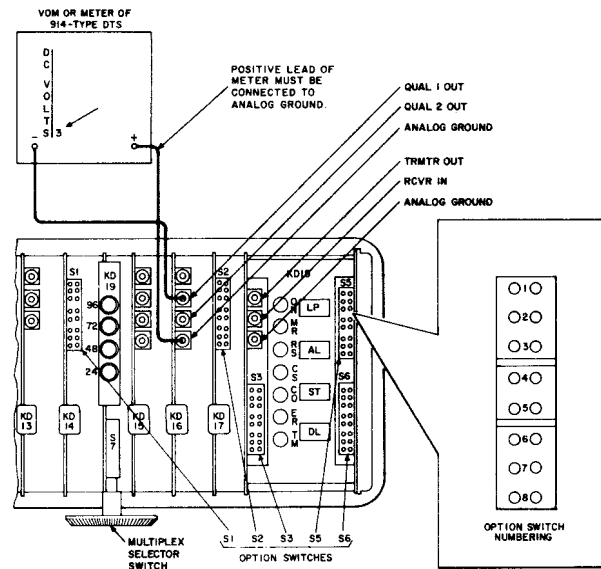

Fig. 5—Compromise Equalizer Test Setup
- (1) Call the STC and verify that options WK(S1-4), WN(S1-2), WP(S3-1), WS(S1-7), XG(S5-6), or XI(S5-8) are installed in the distant-end data set. (Disregard additional options not listed.)
- (2) Refer to Fig. 5 and install options WN(S1-2), WK(S1-4), WS(S1-7), XG(S5-6), or XI(S5-8) in the local data set. (Disregard additional options not listed.)
- (3) Verify that the distant-end data set is in the digital loop-back mode and that the ST switch is depressed.
- (4) Position the multiplex selector switch of the local data set to 2400 bps. (This conditions the **quality 2 out** test point on KD16 of the local data set to indicate the quality of the received signal at the distant-end data set.)
- (5) Apply power to the local data set.
- (6) Depress the ST switch of the local data set. Ignore momentary blinking of the status indicators. The ER indicator is lighted while the ST switch on the distant-end data set is depressed.
- (7) Measure and record the dc voltage at **quality 1 out** test point as shown in Fig. 5.
**Requirement:** 1.25 volts or less. If this requirement is met, proceed to (18).
- (8) Remove option shorting jack S1-4 and reinstall at S1-5.
- (9) Measure the dc voltage at **quality 1 out** test point as shown in Fig. 5.
(10) Install the option shorting jack (either S1-4 or S1-5) which results in the minimum negative voltage magnitude indication (VOM indicates less than 2 volts dc).
(11) Install option WM (S1-1) in the local data set.
(12) Measure and record the dc voltage at **quality 1 out** test point as shown in Fig. 5.
(13) Remove option shorting jack S1-1 and reinstall at S1-3.
(14) Measure and record the dc voltage at **quality 1 out** test point as shown in Fig. 5.
(15) Remove option shorting jack S1-3 and reinstall at S1-2.
(16) Measure the dc voltage at **quality 1 out** test point as shown in Fig. 5.
(17) Install option shorting jack S1-1, S1-2, or S1-3, which results in the minimum negative voltage magnitude indication (VOM indicates less than 2 volts dc).
(18) Install option WP (S3-1) in the local data set.
(19) Disconnect the VOM negative test lead from **quality 1 out** test point and connect to **quality 2 out** test point.
(20) Measure and record the dc voltage at **quality 2 out** test point. (Refer to Fig. 5.)
(21) Remove option shorting jack S3-1 and reinstall at S3-3.
(22) Measure the dc voltage at **quality 2 out** test point.
(23) Install either option shorting jack S3-1 or S3-3, which results in the minimum negative voltage magnitude indication (VOM indicates less than 2 volts dc).
(24) Install option WR (S1-6) in the local data set.
(25) Measure and record the dc voltage at test point **quality 2 out**.
(26) Remove option shorting jack S1-6 and reinstall at S1-8.
(27) Measure and record the dc voltage at **quality 2 out** test point.
(28) Remove option shorting jack S1-8 and reinstall at S1-7.
(29) Measure the dc voltage at **quality 2 out** test point.